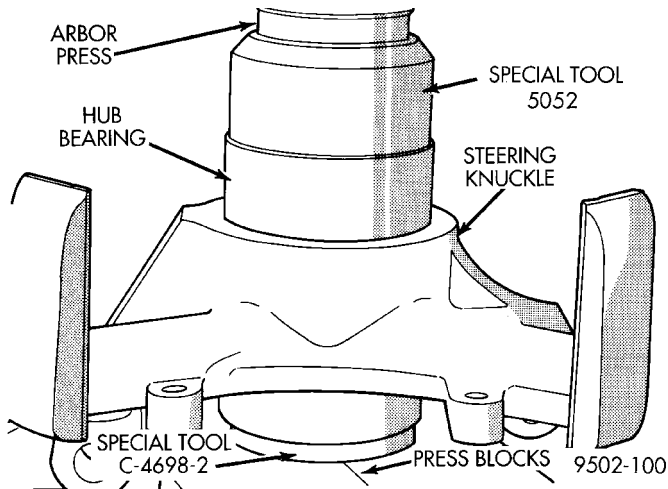

Fig. 49 Pressing Hub Bearing Into Steering Knuckle
(3) Apply Loctite Adhesive # 640 or an equivalent, to the bore of the steering knuckle. The adhesive is to be applied to the entire bore wall surface, from the shoulder at the bottom to just below the snap ring groove.
(4) Place new hub bearing into bore of steering knuckle. Be sure the bearing is square with the bore. Place the steering knuckle in an arbor press with Receiver, Special Tool C-4698-2 supporting steering knuckle (Fig. 49). Place Diver, Special Tool 5052 (Fig. 49) on the outer race of the hub bearing. Press the